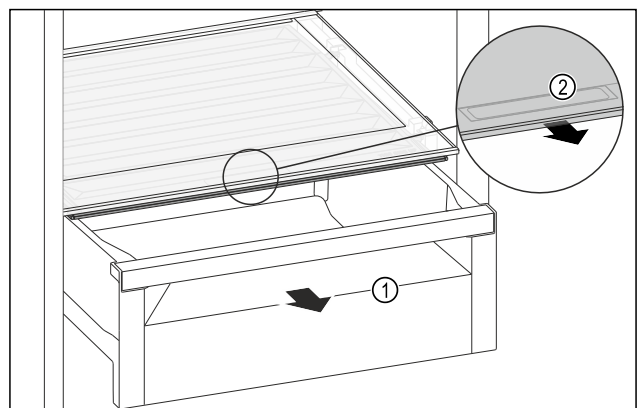

Fig. 108
- Pull out the drawer Fig. 108 (1).
- Grasp the recessed grip Fig. 108 (2) on the compartment lid and pull the compartment lid forwards at the same time.